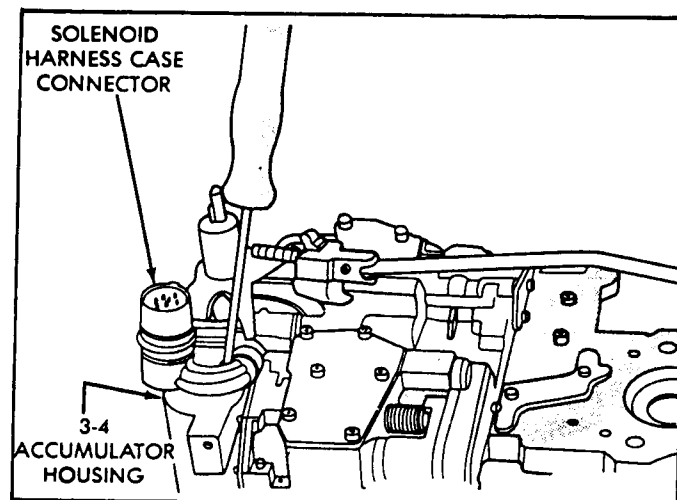

Figure 116
53. Attach the solenoid case connector to 3-4 accumulator housing with shoulder type screw (See Figure 116).